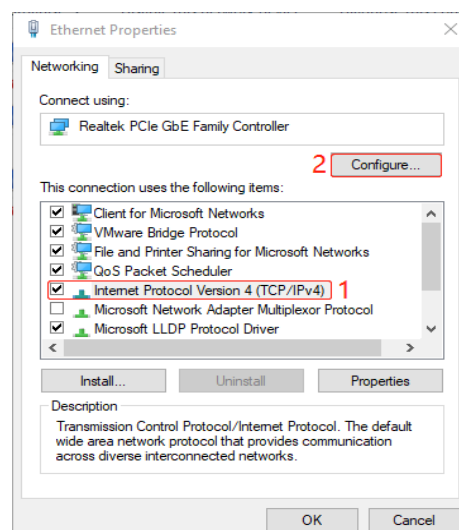
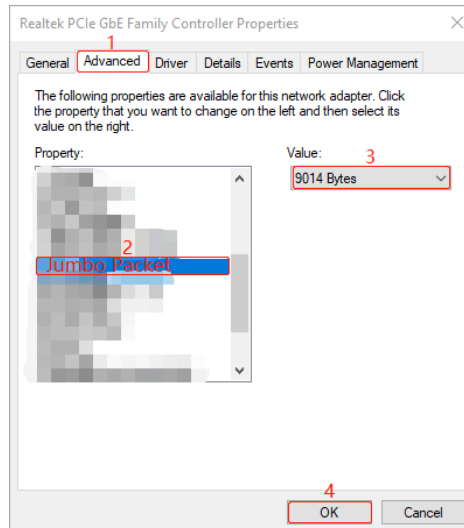

Figure 5
Figure 6
(1) Control Panel ->Select "Network Card" ->Right click "Properties" ->Open the "Ethernet Properties" page, as follows Figure 5 and Figure 6: